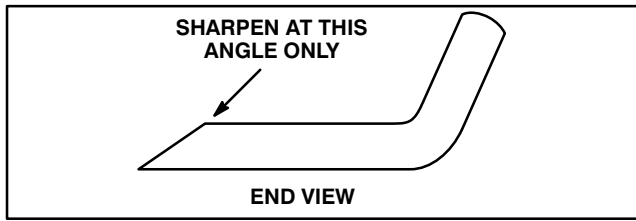

Figure 79
2. Inspect cutting edges of all blades. Sharpen the cutting edges if they are dull or nicked. Sharpen only the top of the cutting edge and maintain the original cutting angle to make sure of sharpness (Fig. 79). The blade will remain balanced if same amount of metal is removed from both cutting edges.